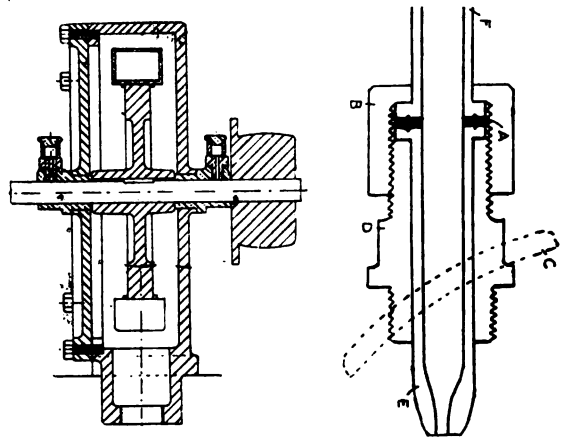

FIG. 4.
I also enclose tracing of an improved jet or interchangeable nozzle (Fig. 4). By loosening the nut B the jet E may be removed, and one of more suitable size inserted, while the fibre washer A will make a perfectly water-tight joint. I can fit on a flange (C) to suit the motor described in your article at a moderate price.